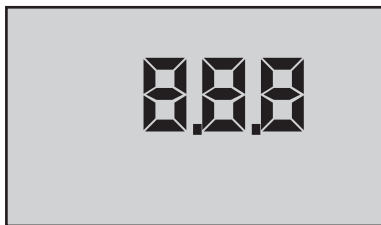

Figure 35
2. Press  key until three numbers are displayed as shown in Figure 35.